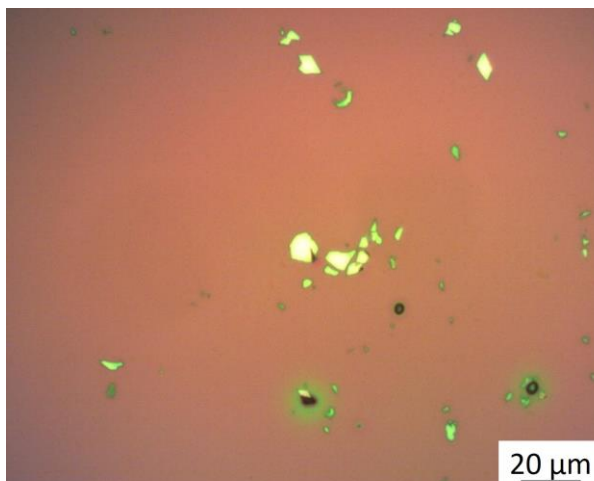

Figure 2 A chosen flake sample under real-time microscope view.
- c. Find a desired 2D material under the real-time video microscope of MW3 Pro (Figure 2).